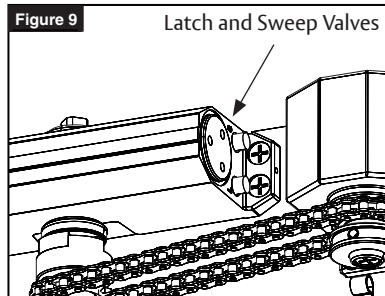

Figure 9
1. Open Latch and Sweep valves on closer of operator with provided 1/8" hex wrench. (Figure 9)